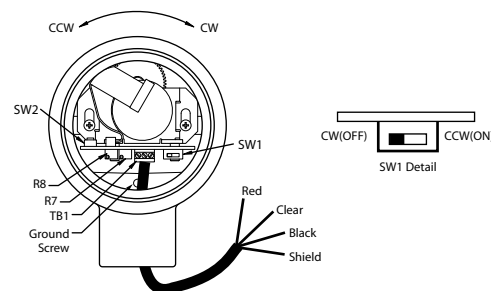

Figure 4:
- See Figure 4 below for related information.
This provides access to the edge of the SG1000A's printed circuit board, namely the direction switch SW1 (the slide switch), and the calibration switch SW2 (the push-button switch). See Figure 4 for locations of these switches.
- If the encoder shaft turns in the CW direction as the gate is moved from the fully-closed to the fully-open position, then set SW1 to the OFF position (i.e., toward the center of the PC board). See Figure 4.
- If the encoder shaft turns in the CCW direction as the gate is moved from the fully-closed to the fully-open position, then set SW1 to the ON position (i.e., toward the edge of the PC board). See Figure 4.
- D) Assuming conditions (A), (B), and (C) are proper, and your SG1000A still seems to behave improperly, then try re-calibrating again, paying close attention to the eight calibration steps.
- 2) If you have gone through troubleshooting hints (1A), (1B), (1C), and (1D), and if your SG1000A seems to otherwise respond properly, from fully-closed to fully-open, with the only exception being that strange values other than 4 mA and 20 mA are output for the fully-closed/fully-open positions (e.g., 3 mA at one-end and 23 mA at the other-end), then possibly the R7 and R8 factory potentiometer settings have been tampered with. See Figure 4 for location of these pots. Evidence of R7 and R8 tampering is most easily seen when in the calibration mode. When R7 and R8 are at their factory-settings, the output signal is 12 mA during calibration mode. (Recall that the output signal remains at 12 mA until the calibration process is completed). If during calibration mode the output signal is not 12 mA, then most likely the R7 and R8 factory-settings have been tampered with.